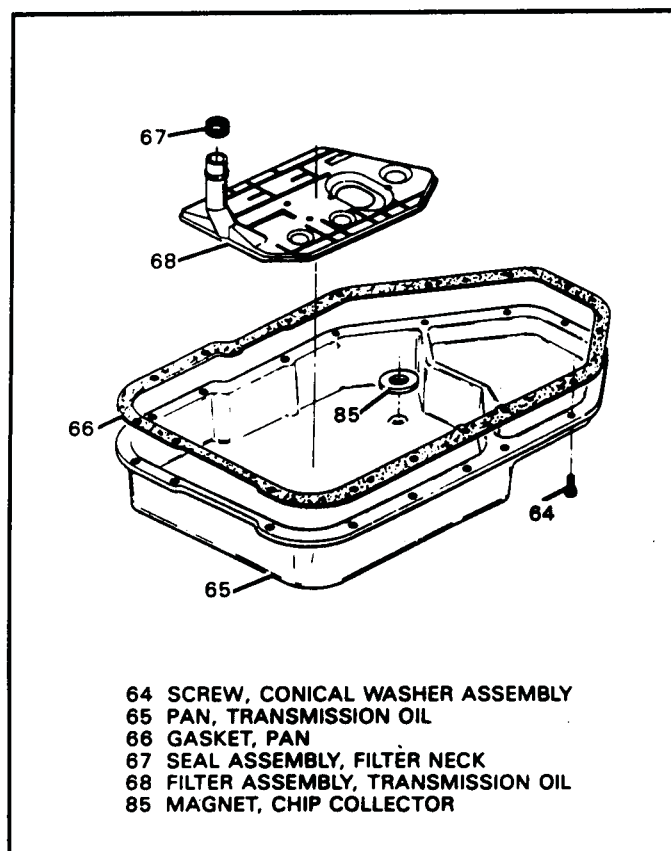

Figure 34
19. Remove the bottom pan and magnet, as shown in Figure 34.
20. Remove and discard the bottom pan gasket, as shown in Figure 34.
21. Remove and discard the bottom pan oil filter, as shown in Figure 34.
22. Remove and discard the filter "O" ring seals, as shown in Figure 34.